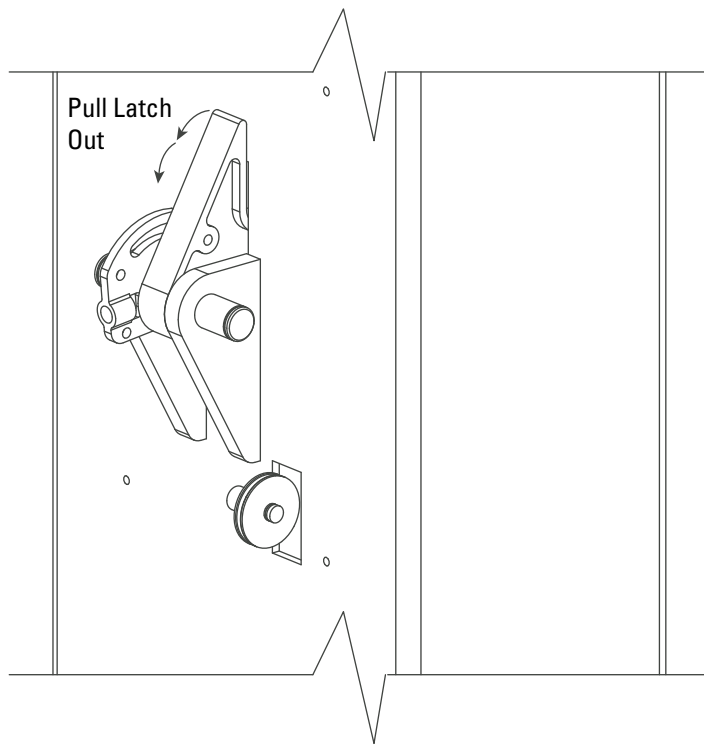

Figure 6
- 6. **Carriage Placement.** Disengage the latch by pulling out the latch on the column, figure 6. Slide the carriage to the leg's baseplate. Engage the latch by releasing the latch. Slide the carriage up until the first "click" is heard. Repeat the process for the other carriage.